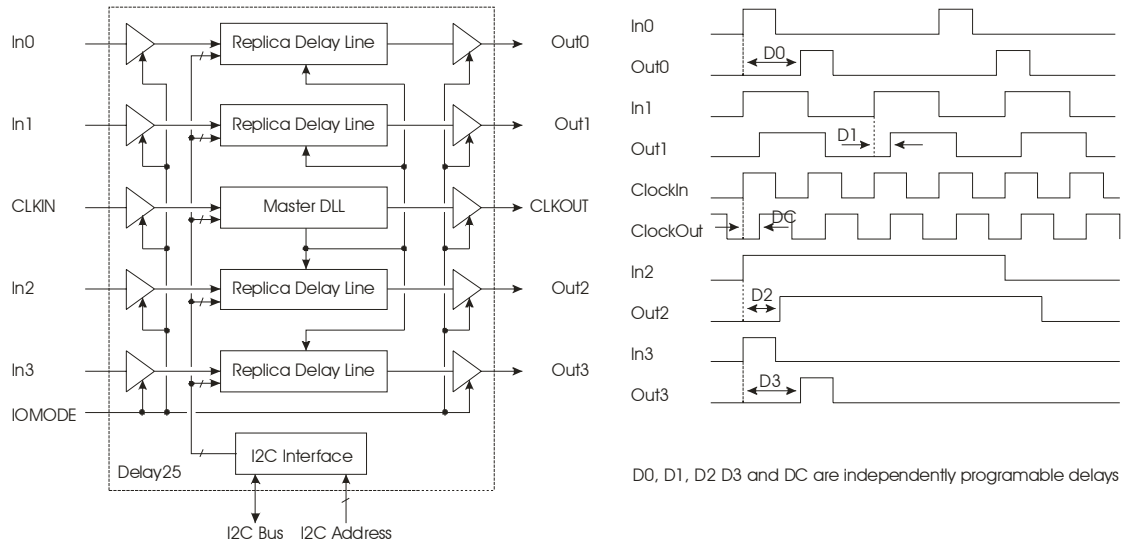

Figure 1 Block diagram of the delay25 (left) and hypothetical use of the ASIC illustrating the meaning of the phase delay for each channel (right)
A block diagram of the delay25 ASIC is shown in Figure 1. The ASIC contains a master Delay Locked Loop (DLL), four Replica Delay Lines (RDL), an I2C interface and double standard I/O input and output buffers.
Figure 1 (right) illustrates a possible use of the delay25 chip and the meaning of phase delay for each channel. As mentioned before, please note that the master channel can be only used with a clock signal having clock frequencies of 32, 40, 64 or 80 MHz.
The IO signal levels are controlled by the pin IOMODE (IO mode) as is indicated in Table 1. As represented in Figure 1 the IO mode pin affects only the input and output buffers of the replica and master delay lines. When the IO mode is set to CMOS (0) all the channels inputs and outputs work single ended being all the negative inputs and outputs disabled. When IO mode is set to LVDS (1) all the channels inputs and outputs are differential.